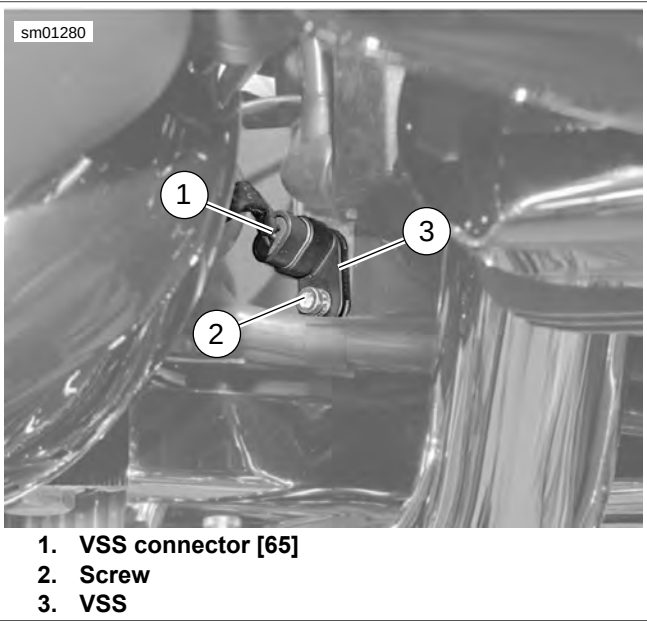

Figure 6-102. VSS: All Models (XL shown)
2. See Figure 6-102. Disconnect VSS harness connector [65A] (1) from VSS (3) mounted on rear of engine case below starter motor assembly.
3. Remove screw (2). Carefully remove VSS and O-ring from engine crankcase.
1. See Figure 6-102. Carefully install VSS (3) and O-ring into engine crankcase with screw (2). Tighten to 90-120 **in-lbs** (10.2-13.6 Nm).
2. Attach VSS harness connector [65A] (1) to VSS.